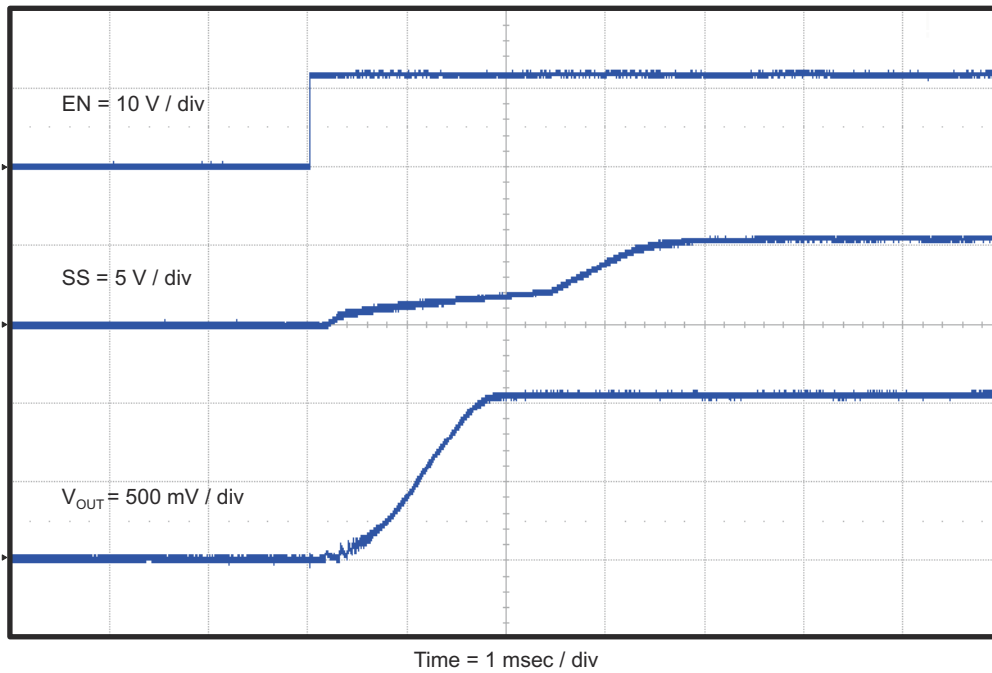
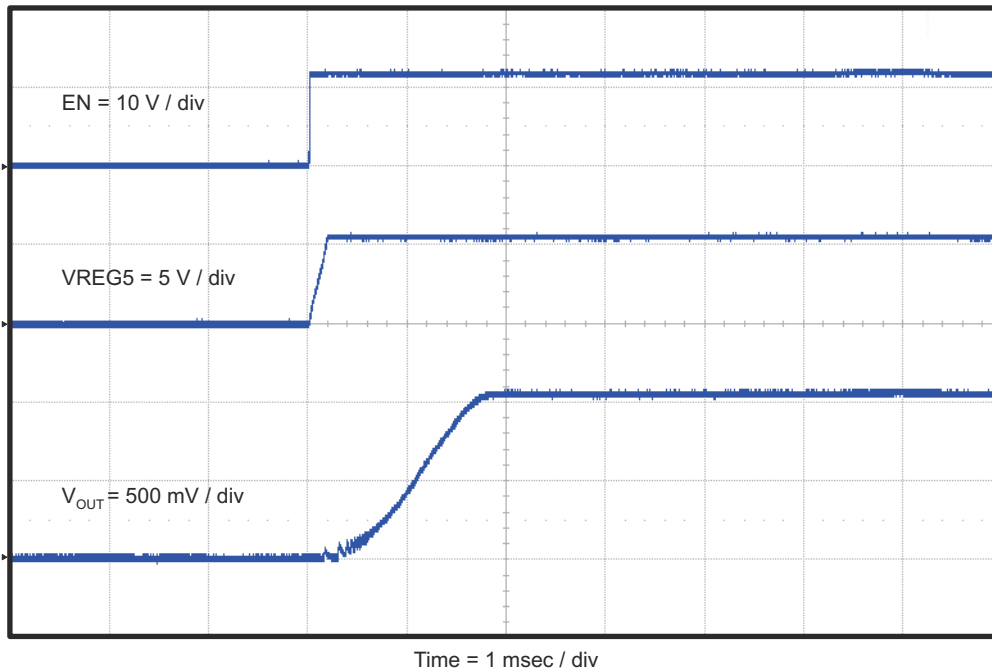

Figure 4-13. TPS54528EVM-052 Start-Up Relative to EN With SS
Figure 4-14. TPS54528EVM-052 Start-Up Relative to EN With VREG5
The TPS54528EVM-052 start-up waveforms relative to enable (EN) are shown in Figure 4-13 and Figure 4-14.